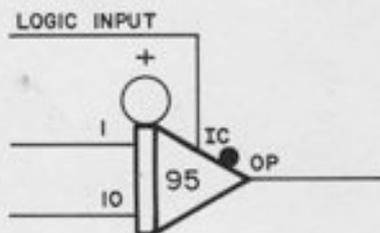

Figure A1.4. Integrator with IC/OP Mode Cycling from a Single Logic Source
3. If mode control inputs are patched, it is not necessary to label them "IC" and "OP" provided the programmer follows the convention of drawing the IC logic input closer to the IC analog input. This rule helps prevent cluttering the diagram with unnecessary lettering. As an example, consider the circuit in Figure A1.5. This figure shows an abbreviated symbol for the circuit in Figure A1.4. The logic input closest to the IC pot is assumed to be the IC input; hence, the other one is the OP input. If capacitor selection logic inputs are used, they should be explicitly labeled: "F" and "MS".